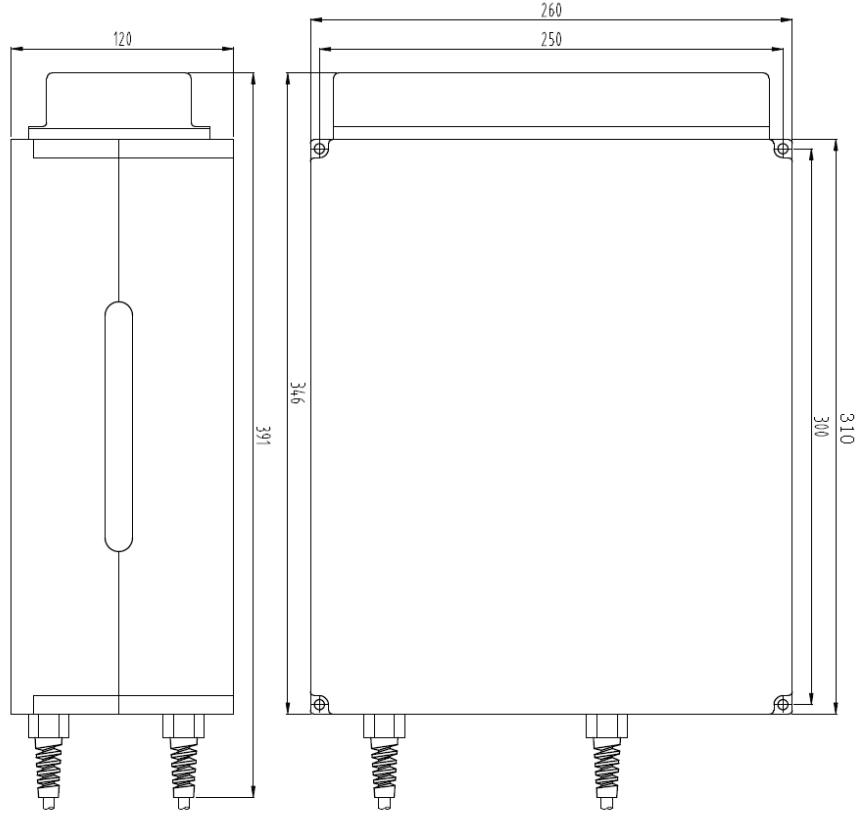

Figure 1. Dimension drawing of laser module(Unit: mm).
- a) Fiber Laser module dimensions (As shown in Fig. 1).